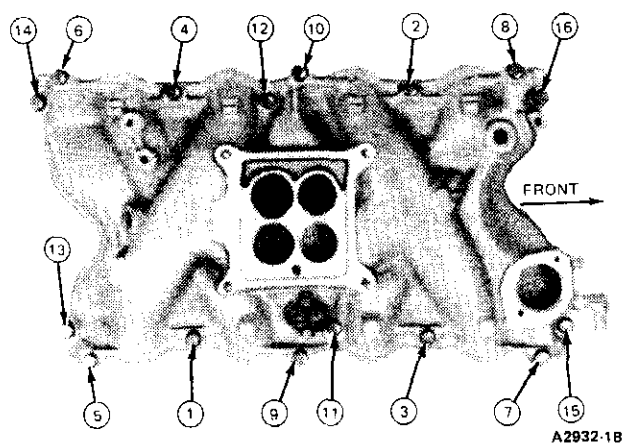

FIG. 17 Intake Manifold Torque Sequence
5. Carefully lower intake manifold into position over four (4) studs in ends of cylinder heads. **When intake manifold is in place, run finger around seal area to be sure seals are in place. If seals have shifted, remove manifold and reposition seals.**
6. Install attaching bolts and nuts snugly to manifold. Torque bolts and nuts in sequence (Fig. 17) to specification to compress gaskets and seals. Then repeat sequence, torquing bolts and nuts to same specification.